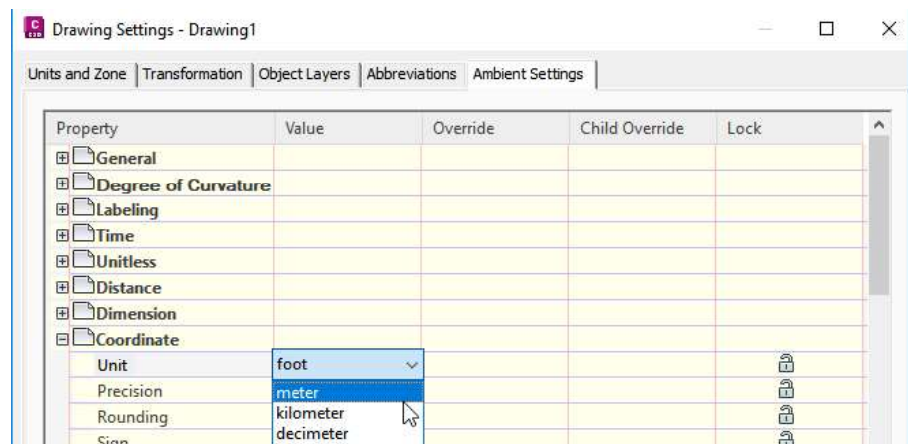

Figure 3-77 Selecting the **meter** option for the **Unit** cell from the drop-down list
4. Next, choose the **Ambient Settings** tab. Expand the **Coordinate** node and click on the cell in the **Value** column corresponding to the **Unit** property; a drop-down list is displayed. Select the **meter** option from the drop-down list, as shown in Figure 3-77.